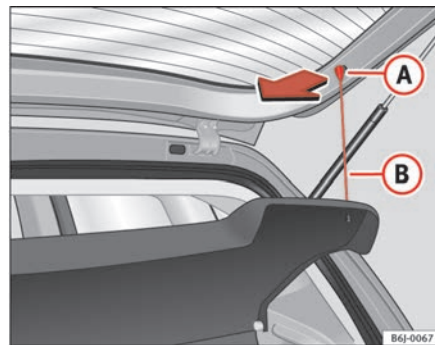

Fig. 86 Stowage tray
- Unhook the loops ⇒ fig. 86 **B** from housings **A**